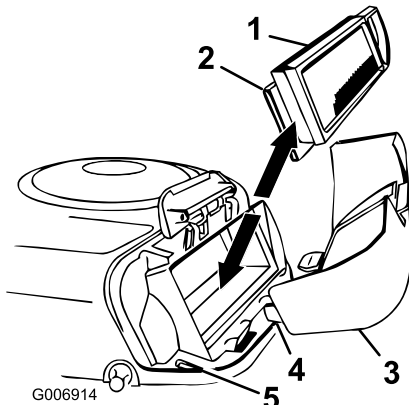

Figure 31
7. Carefully slide the paper element and the foam element from the blower housing (Figure 31).
2. Align the tabs on the air cleaner cover with the slots of the blower housing (Figure 31).